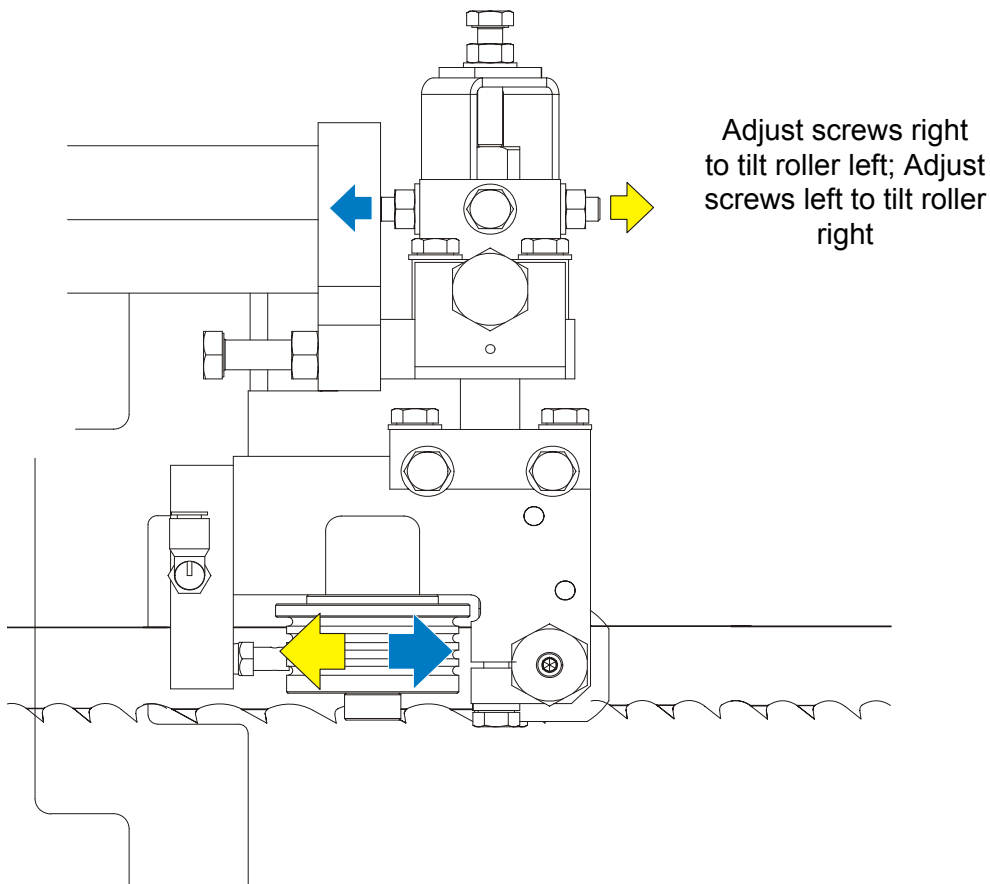

FIG. 7-36
**See Figure 7-36.** Loosen the jam nuts on the horizontal tilt adjustment screws. To tilt the roller left, loosen the right screw and tighten left screw. To tilt the roller right, loosen the left screw and tighten the right screw. Tighten the jam nuts and recheck the tilt of the blade.